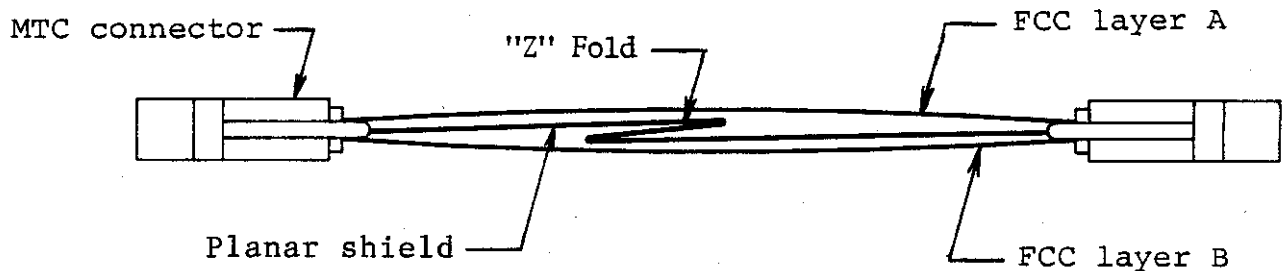

Figure 7-1. Location of Planar Shield in FCC Cable Assembly
A planar shield is used between the two layers of FCC to isolate the two FCC layers from each other (Figure 7-1). The planar shield is terminated by means of busbars at each end. Perform the following procedures for both ends of the shield.
- o Put a Z fold in the shield to produce the proper length (Figure 7-1).